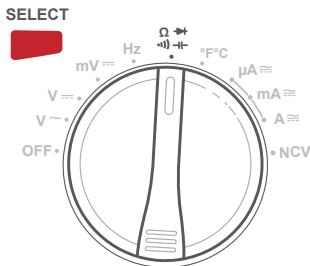

Figure 6.1
1. Turn the rotary dial to the capacitance ($\text{—}|\text{—}$) position. Press **SELECT** three times to choose the capacitance test. [Figure 6.1]